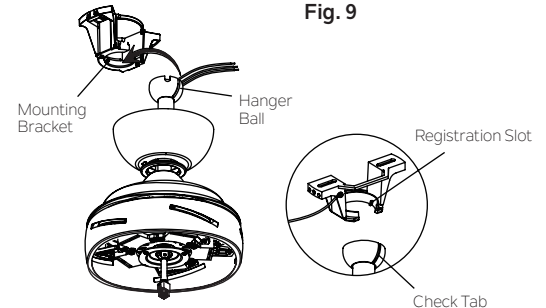

Fig. 10
Step 6. Now lift the motor body into position and place the hanger ball into the hanger bracket. Rotate until the "Check Tab" has dropped into the "Registration Slot" and seats firmly. (Fig.10) The entire motor body should not rotate if this is done correctly.